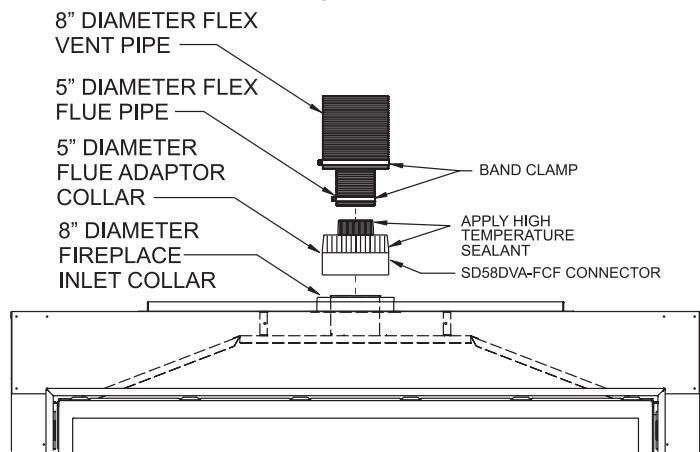

Figure 62b
NOTE: For installation of Flex Venting on Fireplaces that have Flue and Inlet Vent collars flush with top of the fireplace, it is recommended that an SD58DVA-FCF Connector be used. When using the SD58DVA-FCF Flex Vent Connector, it will require removing (or cutting off) the 5" diameter adapter from the DVVK5F Flex Flue. **See Step 10b and Figure 62b.**
- 10a.** Apply sealant to the outside of the flue pipe adapter and connect to the flex flue pipe. Then insert the adapter into the fireplace flue. Secure the flue adapter to the fireplace flue with a minimum of two screws provided. **See Figure 62b.**
- 10b.** If using the SD58DVA-FCF Vent Connector, apply sealant to the inside of the 5" diameter flex flue pipe, then connect the flex flue to the 5" flue takeoff on the SD58DVA-FCF Connector. Use a 5" diameter band clamp and a minimum of two screws to secure the flex flue to the SD58DVA-FCF Connector. **See Figure 62b.**